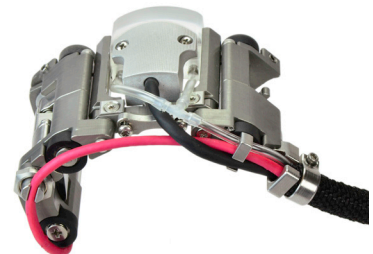

Figure 38
- k. Slide the protective sleeving over the sleeve clamp bracket on the scanner assembly. Work the sleeve clamp into position and tighten the sleeve clamp screw until sufficiently snug. Ensure the sleeve clamp is oriented so that the sleeve clamp screw will not protrude lower than the scanner wheels and rub on the inspection surface (see Figure 38).